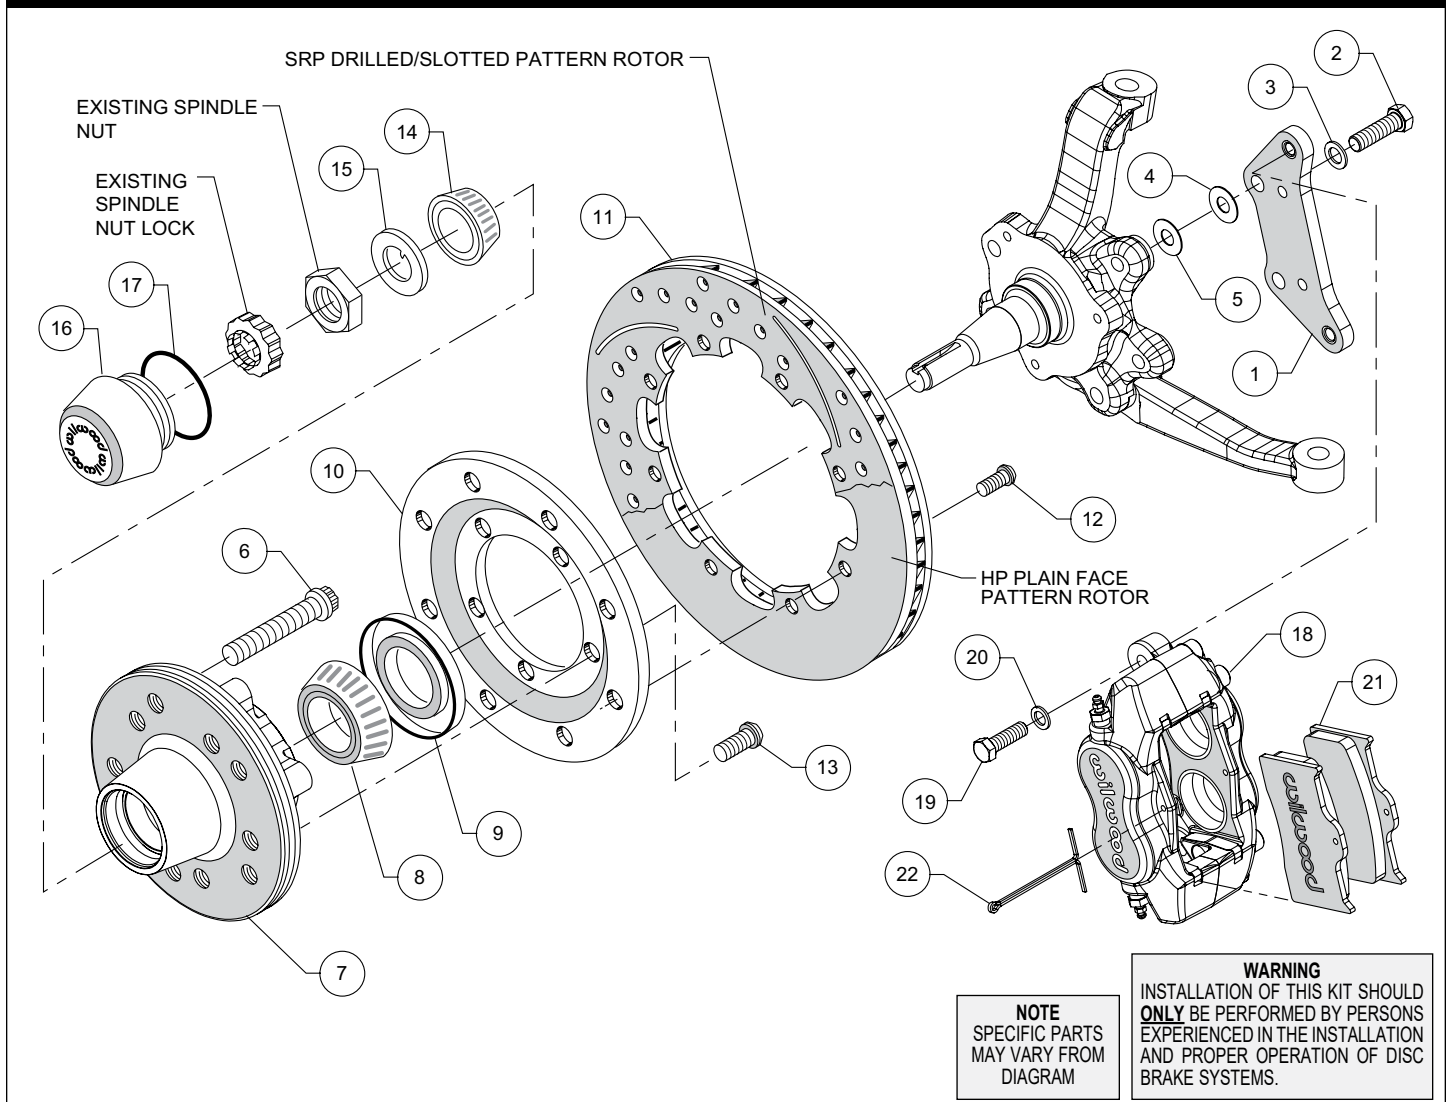

Figure 1. Typical Installation Configuration
NOTE: Numbers in parenthesis refer to the parts list and Figure 1 on the preceding pages.
•**NOTE:** Please reference the caution statement at the beginning of the assembly instructions. Mount the caliper (18) onto the caliper mounting bracket (1) using bolts (19) and washers (20), as shown in Figure 1 and Photo 1. Temporarily tighten the mounting bolts. Ensure that the flanged heads of the clinch nuts in the bracket are facing away from the caliper, Figure 1. **NOTE:** The end of each bolt must be flush with or slightly protruding from the head of the clinch nut. Remove bolts one at a time, apply red *Loctite*® 271 to threads and torque to 40 ft-lbs. The bracket/caliper assembly will be installed on the spindle later.
•Orient the rotor (11) and the rotor adapter (10) as shown in Figure 1 and Photo 4. Attach the rotor to the adapter using bolts (12). Using an alternating sequence, apply red *Loctite*® 271 to the threads, and torque to 25 ft-lb.
- Mount the adapter/rotor assembly (10 and 11) to the hub (7) using bolts (13), as shown in Figure 1 and Photo 5. Using an alternating sequence, apply red *Loctite*® 271 to the threads, and torque to 45 ft-lb.
- The caliper/bracket assembly (18 and 1) should initially be installed with clean, dry threads on the mounting bolts. Orient the bracket as shown in Figure 1 and install onto the inboard side of the spindle using bolts (2) and washers (3). Initially place one .030 thick shim (4) on each bolt between the bracket and spindle, Photo 8. Temporarily tighten the mounting bolts and view the rotor (11) through the top opening of the caliper. The rotor should be centered in the caliper, Photo 9. If not, adjust by adding or subtracting shims (4 and/or 5) between the bracket and the spindle. Always use the same amount of shims on each of the two mounting bolts. Once the caliper alignment is correct, remove the bracket mounting bolts (2) one at a time, apply red *Loctite*® 271 to bolt threads, and torque to 60 ft-lb.